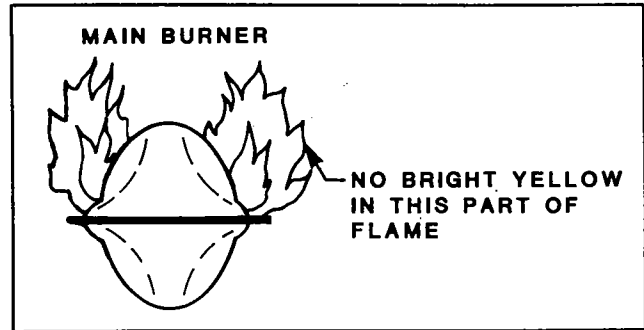

Figure 51. Main Burner Flame
- The main burner flame should be checked regularly to be sure the flame is blue. A yellow flame will cause the formation of soot (figure 51).